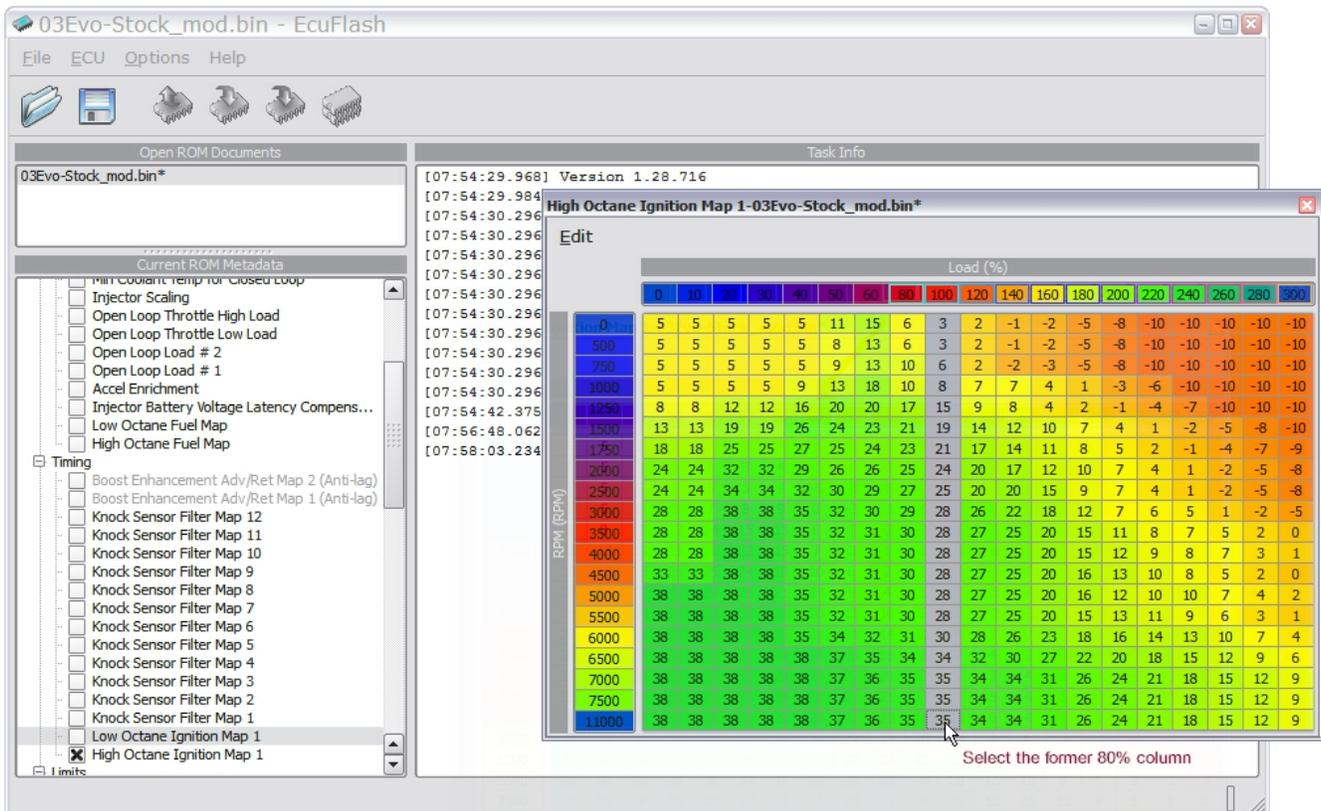

Figure 12, modified 2003 Evolution VIII ECU High Octane Ignition Map, copy 100% column
- The 100% column should now be highlighted as shown in figure 12.